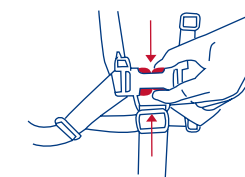

Fig. 18b
- To release, apply pressure to both sides of each male clip until the clip is released. See figure 18b. This process requires a moderate amount of effort so as to prevent an accidental release by your child.